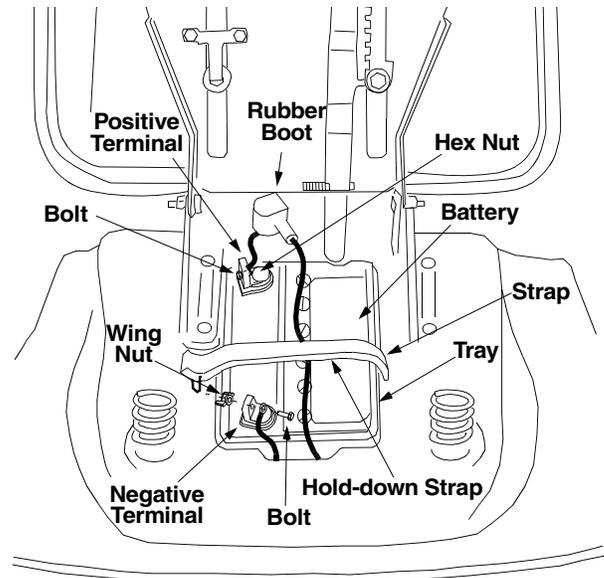

Figure 1
3. Disconnect the battery by first unfastening the wing nut found on the Negative (-) battery terminal and removing the bolt found on the opposite side. Refer to Figure 1. Position the thick, Black wire away from the negative terminal.
4. Carefully lift the protective rubber boot off of the positive terminal. Follow by disconnecting the hex nut found on the Positive (+) battery terminal and removing the bolt found on the opposite side. Refer to Figure 1. Position the thick, Red wire away from the positive terminal.